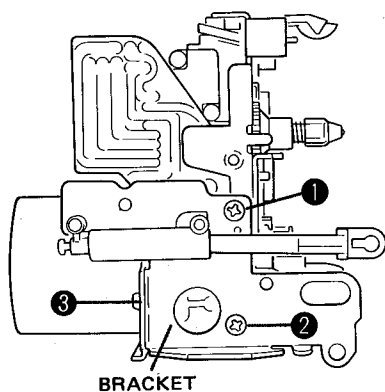

Fig. 11
3. Remove the screws ① to ③ in Fig. 11 and remove the bracket and then remove the cassette support.